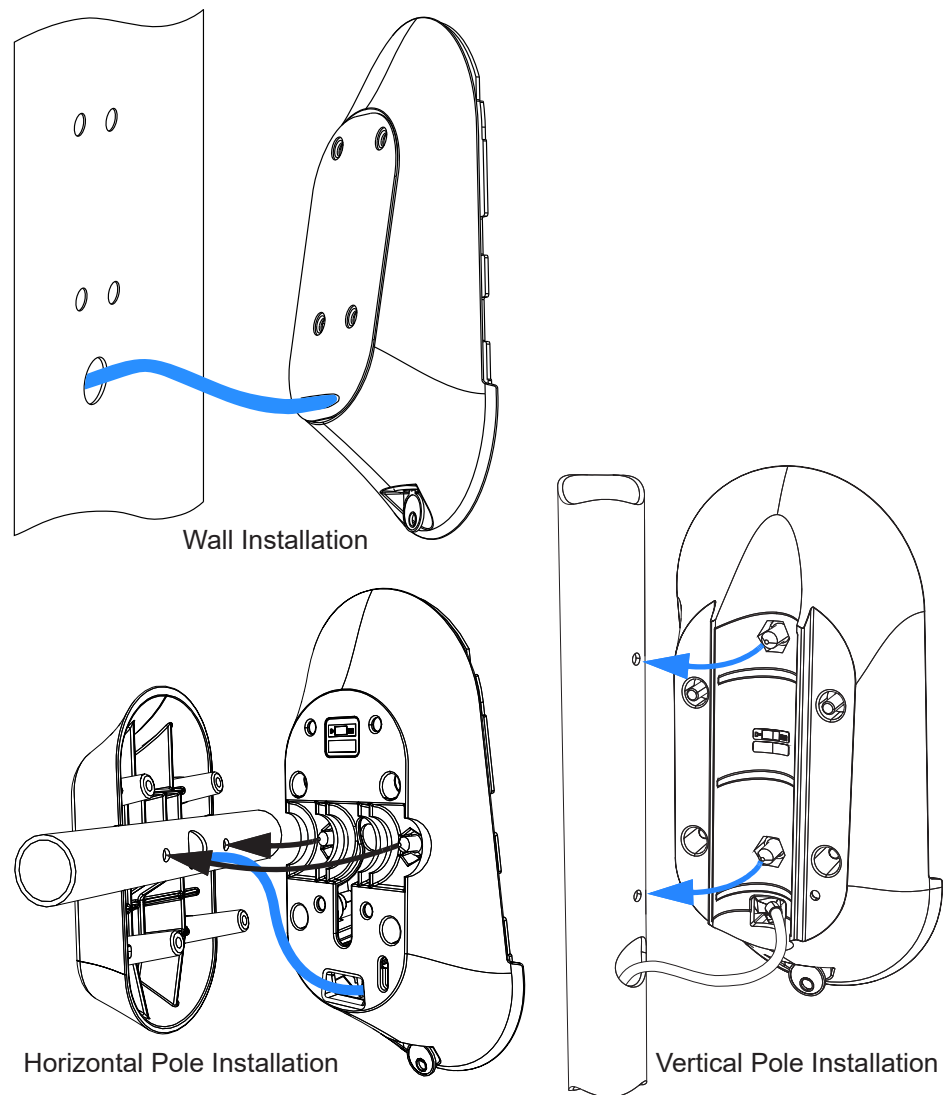

Figure 9-17 Wiring Connections
- Step 7** Put the FareGo Val OV|41 in the proper mounting position on the mounting post as shown in **Figure 9-17**.